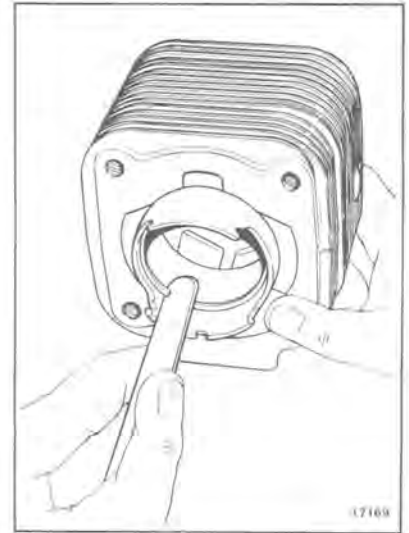

Figure 9-13
- c. Before installing new piston rings, check gap between ends of ring by placing ring in its respective cylinder bore (see Figure 9-13). Press ring down in bore slightly with bottom of piston to square it up. Discard and replace with new ring if gap is excessive (see Section 2, Specifications).